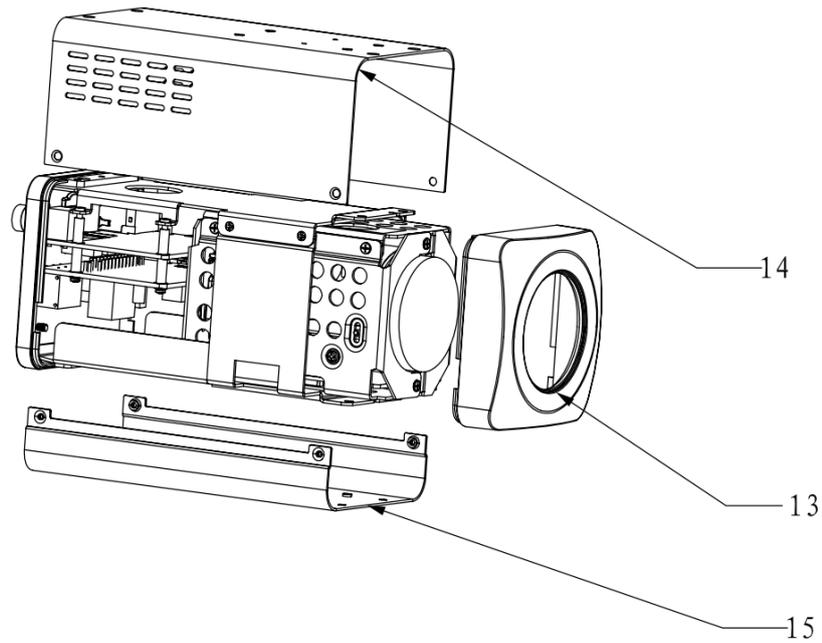

Figure 1-9
b) Refer to Figure 1-9.to open the cover.